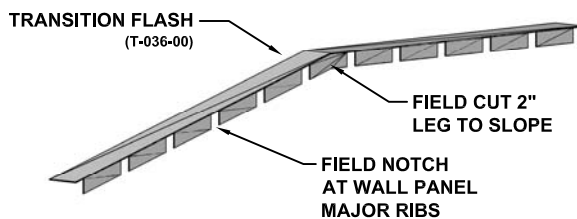

FIGURE 15
4. Transition Flashing (T-036-00), 2" x 4" angle flashing, 2" leg down, 4" leg over the roof panel. In the center of the flash, make a single cut in the 2" leg. This will allow the flashing to follow the roof slope. With the flashing centered on the canopy, push the flashing to the wall and mark a vertical lines on the 2" leg on each side of the major ribs. Notch the 2" leg as in **Figure 15**. Trim off any part of 2" leg that interferes with the horizontal channel.